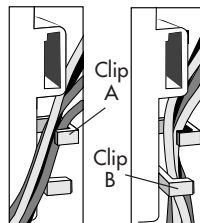

Figure D.1A Figure D.1B
4. Connect the red BNC cable to the BNC connector on the monitor labeled R, the green BNC cable to the BNC connector labeled G(/Sync), the blue BNC cable to the BNC connector labeled B. If you have a fourth BNC connector (Composite Sync), connect it to the BNC connector on the monitor labeled HS/CS. If you have a fifth BNC connector (Vertical Sync), connect it to the BNC connector on the monitor labeled VS (**Figure C.1**). Place the 15-pin VGA to BNC Cable under Clip A (**Figure D.1A**). Then place the 15-pin VGA to BNC cable under Clip B (**Figure D.1B**).